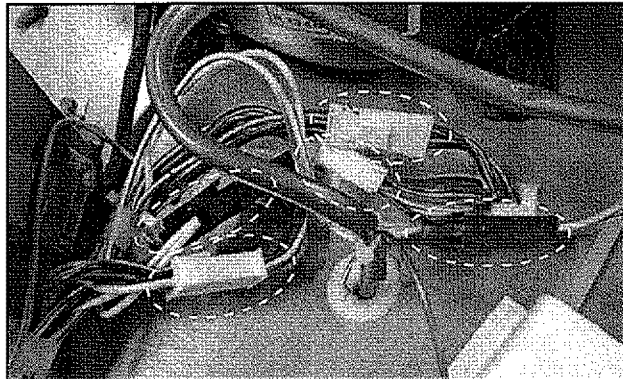

FIGURE 4
6. Disconnect five connectors starting near the compressor. Make sure to disconnect all five connectors circled in *Figure 4*.